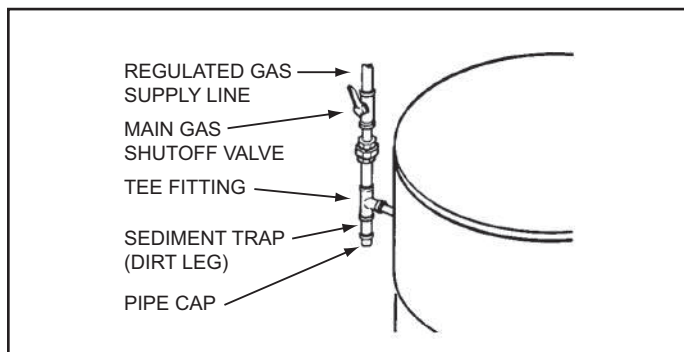

Figure 52
Ensure all gas pipe is clean on the inside before installation. To trap any dirt or foreign material in the gas supply line a sediment trap (dirt leg) must be installed as shown in Figure 52. The sediment trap must be readily accessible and not subject to freezing conditions. Install in accordance with the recommendations of
7. Install a sediment trap (dirt leg) as shown in Figure 52 on page 36.
8. Install a Main Gas Shutoff valve in the supply gas line as shown in Figure 52 on page 36.
1. For test pressures exceeding 1/2 psi (3.45 kPa) disconnect the water heater and its Main Gas Shutoff Valve from the gas supply piping system during testing, see Figure 52 on page 36. The gas supply line must be capped when disconnected from the water heater.